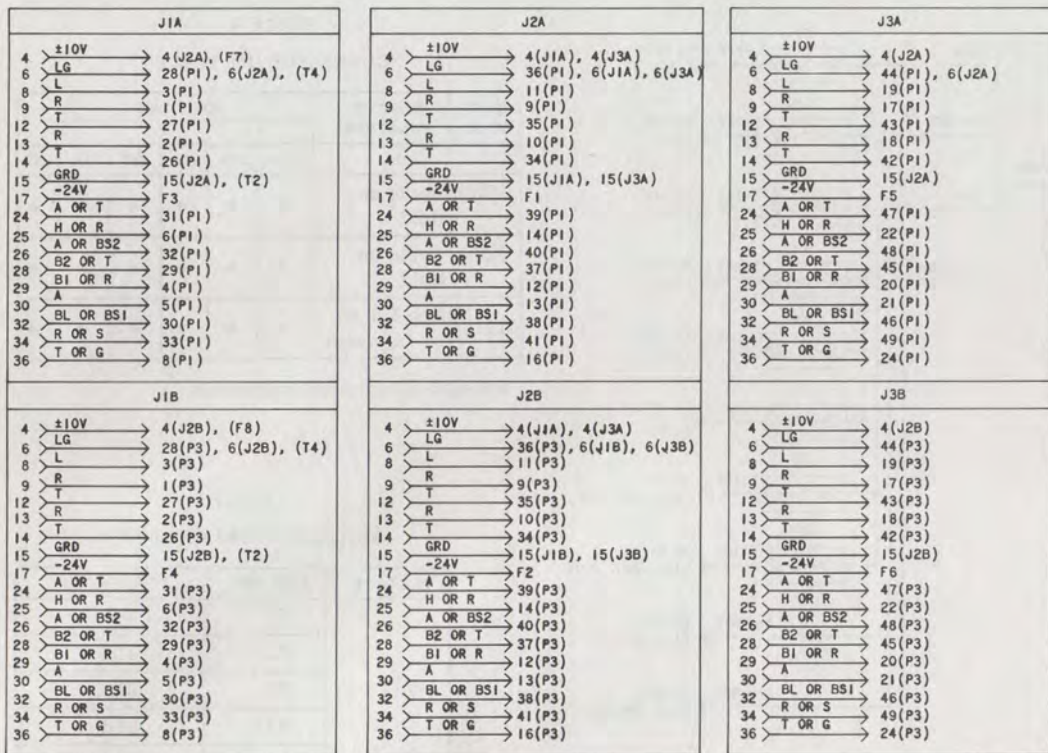
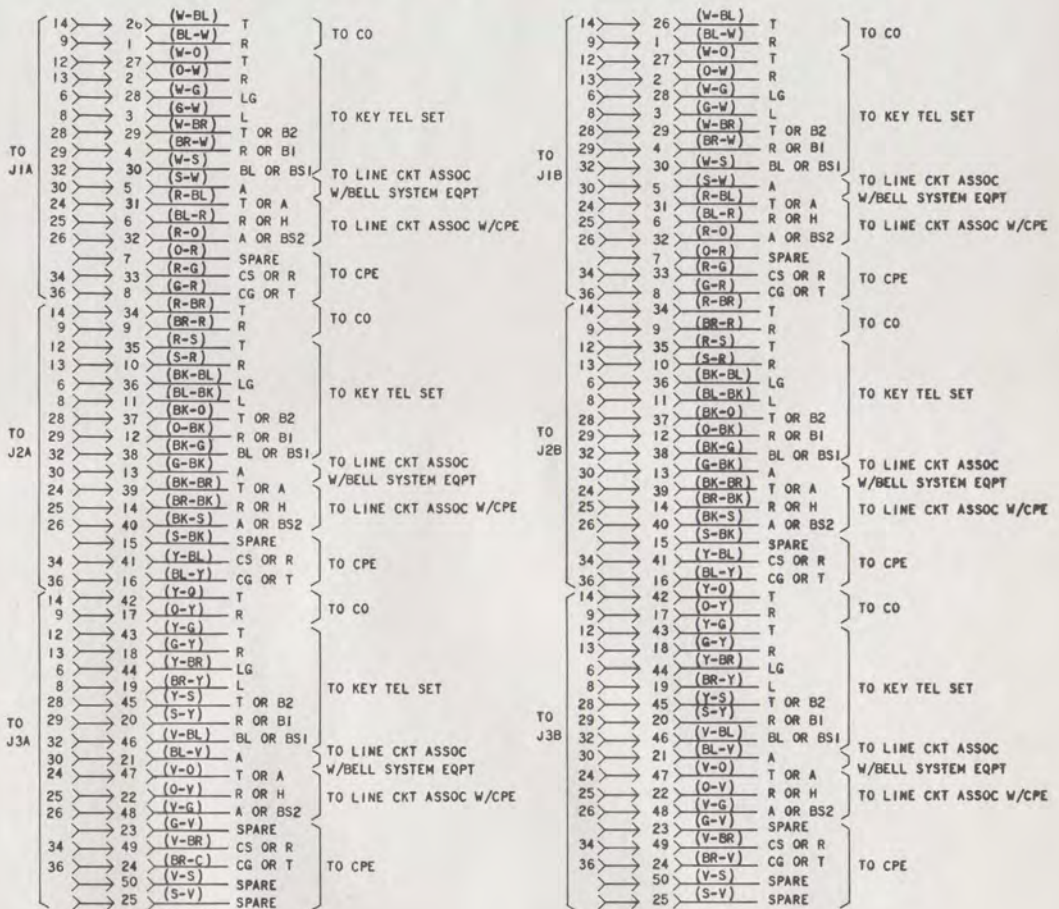

Fig. 6—Connections For Jacks J1 to J3
Fig. 7—Connections For Plugs P1 and P3
2.07 The six 914A connectors are factory-wired to two 50-pin KS-16671, List 1 plugs on the rear of the panel. P1 provides in and out connections for the A connectors (upper row) and P3 provides connections for the B connectors (lower row). Fig. 6 shows the connections for connectors J1 through J3, A and B. Fig. 7 shows the connections to plugs P1 and P3.
4.03 Refer to Fig. 6 for connections to A and B connectors.
4.04 Refer to Fig. 7 for connections to CPE and Bell System equipment.